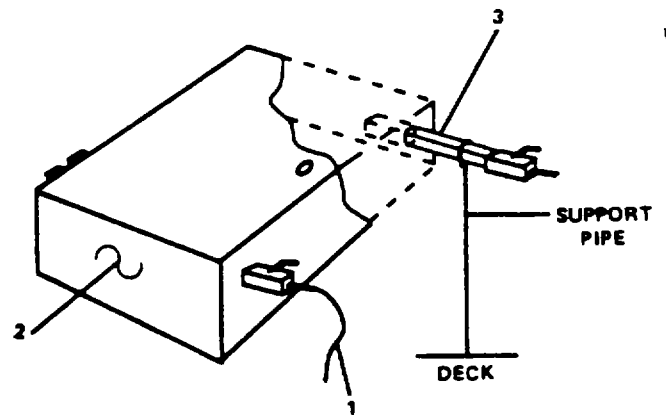

Figure 2-95. Replace Solenoid Valve.
- a. Disconnect and tag electrical wiring (1, Figure 2-95) from power source.
- b. Remove valve (2) from threaded pipe (3) by turning counterclockwise.